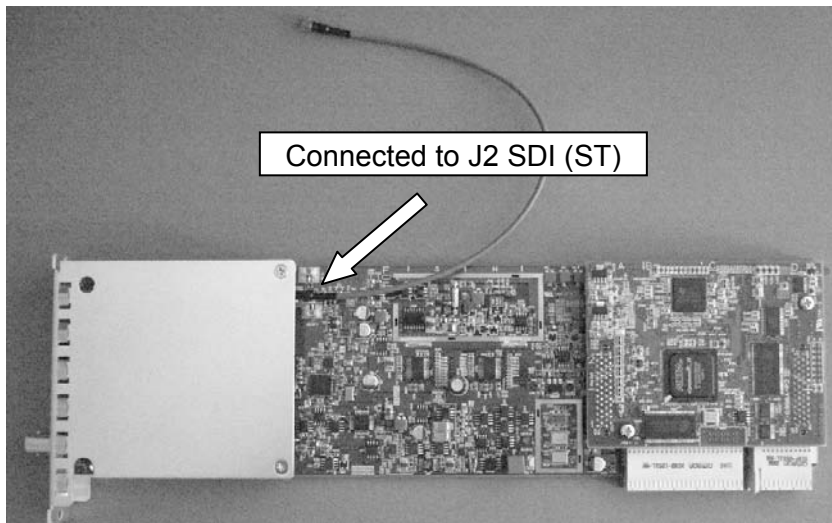

Figure 5-6 LV 58SER02 (EYE PATTERN Unit) in factory default condition
1. Prepare the LV 58SER02 (EYE PATTERN unit) in a factory default condition as shown in Figure 5-6. By factory default, a coaxial cable is connected to J2 SDI (ST).